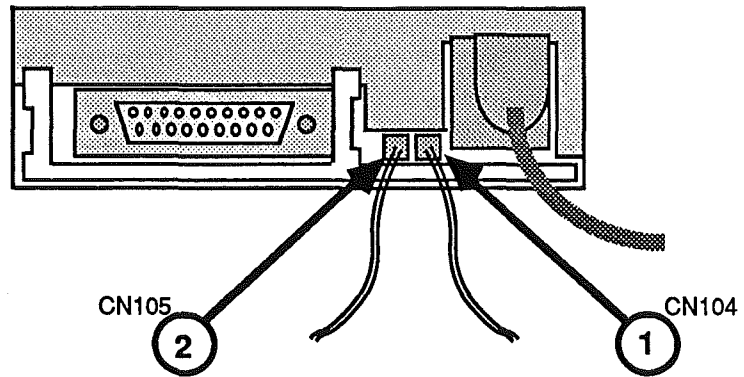

FIGURE 2
IPL.5	Service Packaging, 800K/1.4 MB Drives (Figure 2)
7. Using needlenose pliers if necessary, carefully disconnect the LED cable from CN104 on the drive assembly (Figure 2, #1).
8. Disconnect the eject button cable from CN105 on the drive assembly (Figure 2, #2).
1. Reconnect the eject button cable to CN105 (Figure 2, #2).
2. Reconnect the LED cable to CN104 (Figure 2, #1) on the drive assembly.